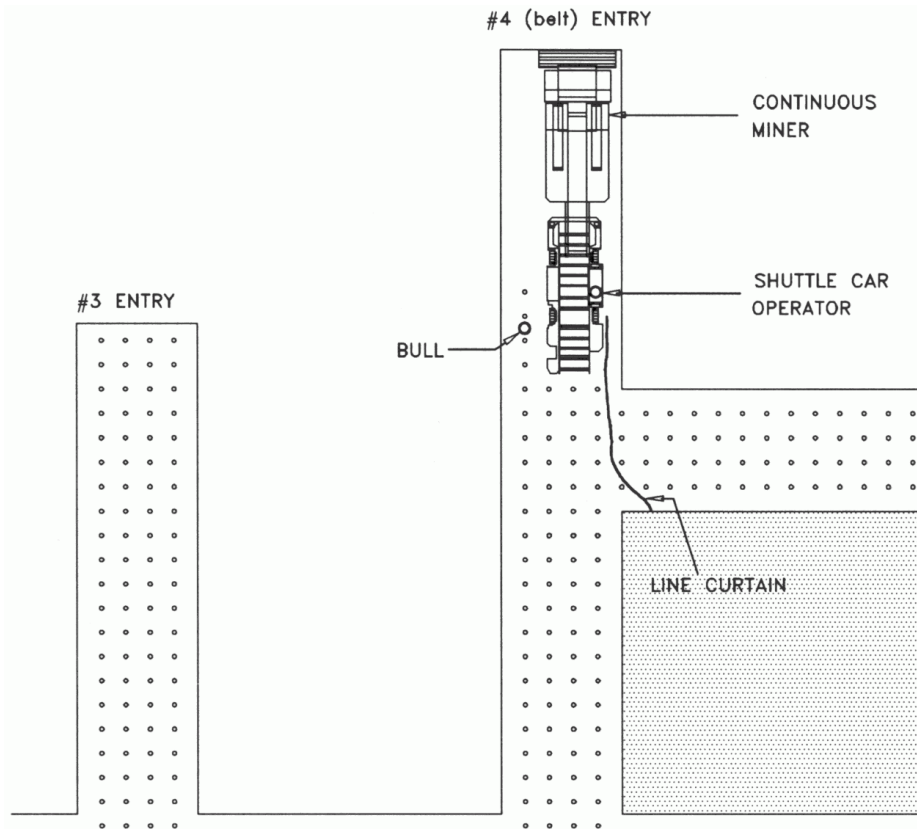
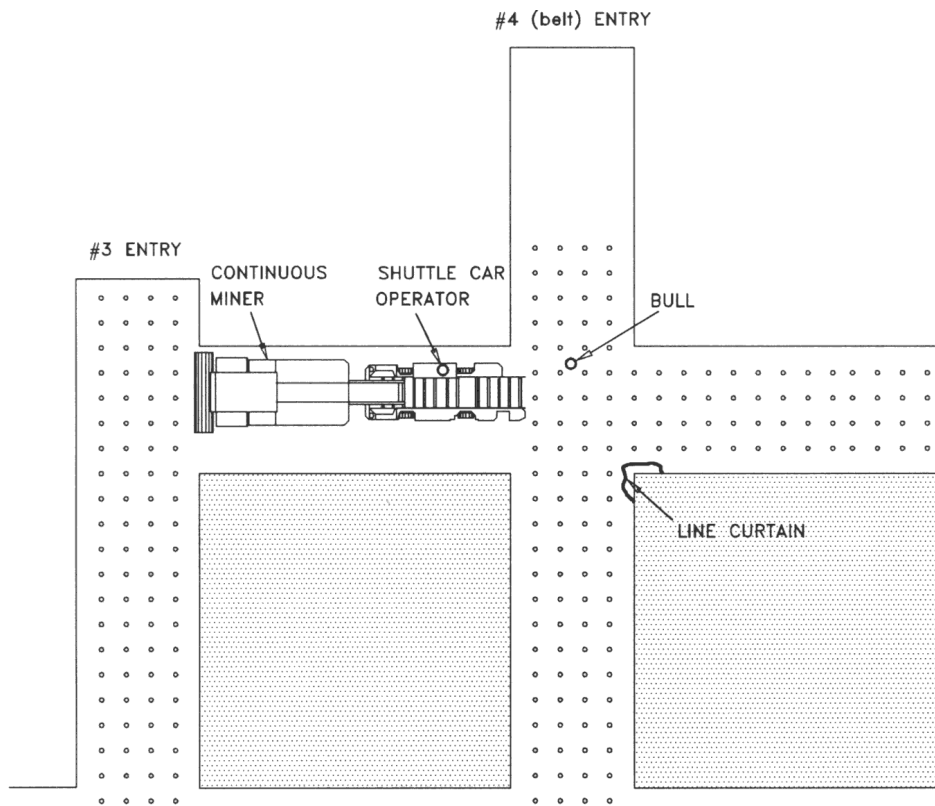

Figure 1: Bull makes a 40 foot extended cut
Figure 2: Bull completes the left hand cut
3. Present the exercise to your class or group by giving every person a copy of the problem booklet (Appendix A). Ask persons to work together in groups of 3 or 4 to answer questions A through G. Verbally summarize the background information and problem statement, review Figures 1 and 2, and introduce Question A. You may ask the trainees in each small group to record their answers on individual answer sheets, or you may give each small group a single answer sheet and ask someone in each group to record their group's answer. The latter approach may generate more group discussion because it encourages trainees to come to a consensus about which answers are best. After they have marked their answers to Question A, everyone in the small group should turn to the next page in their problem booklets. Then they should discuss the feedback for the answers to Question A. When the discussion is completed each person in the group again should turn the page in his or her problem booklet and answer the next question. The remaining questions should be completed in the same way.
Bull, the continuous miner operator, is excited about how fast the new miner head cuts. He advances the miner in the #4 belt entry, as shown in Figure 1. Soon, he has made a 40 ft extended cut. Then he backs the miner away from the face and starts the left-hand crosscut. He continues cutting until he has completed the left-hand crosscut as shown in Figure 2. Study Figures 1 and 2. Then turn to page 5, read Question A and write your answers on the answer sheet.